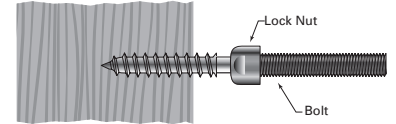

Figure 2
2. Screw the lock nut all the way onto the 2"-long threaded end of the bolt. (Figure 2) Note: turn counter-clockwise to tighten/tension/close.